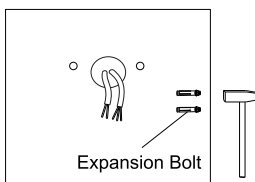

Figure 15
Step 2: Knock the expansion bolts into the wall. (Figure 15)